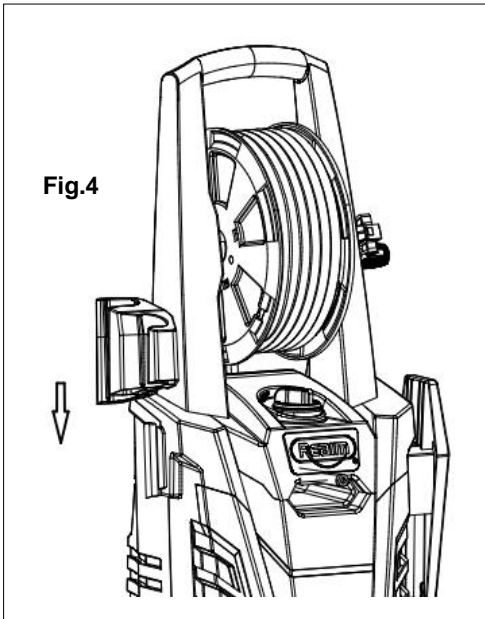

Fig.4
4. trigger gun holder (Fig. 4) into its position.